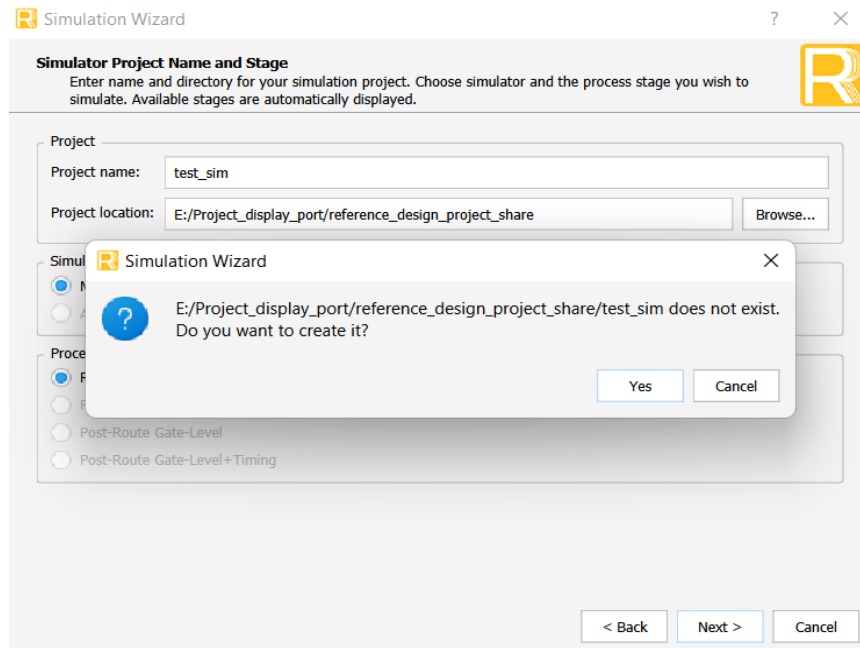

Figure 5.13. Simulation Wizard - II
- A simulation wizard dialog box appears as shown in Figure 5.13. Click on **Yes** button and then click on **Next** subsequently.